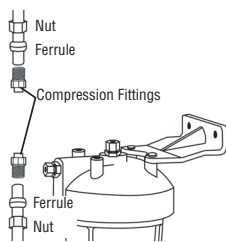

Figure 7
- Two compression fittings are required for the tube ends. Check the tube size. Use 5/8" x 3/8", 3/8" x 3/8" or 1/2" x 3/8" compression fittings as required. Slip nut and ferrule on water tubing as shown and fasten fittings in place. (Figure 7)